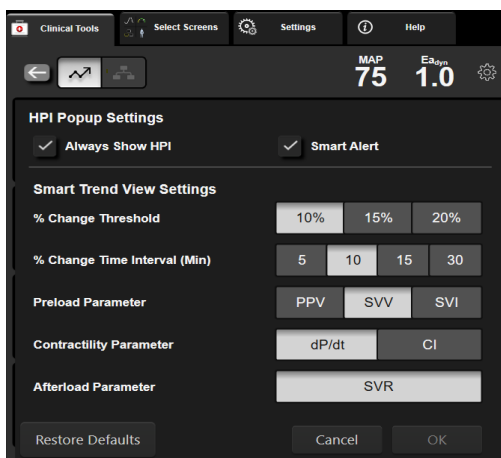

Figure 14-9 HPI secondary screen – smart trend view settings
- 3 Disable the **Always Show HPI** option button. See figure 14-9 on page 258.